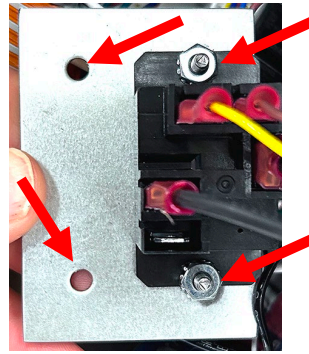

Figure 26
19. On gas fryers, using the supplied plate, attach the relay to the plate. Attach to the control box using the existing holes as shown (see Figure 26 & 26A).